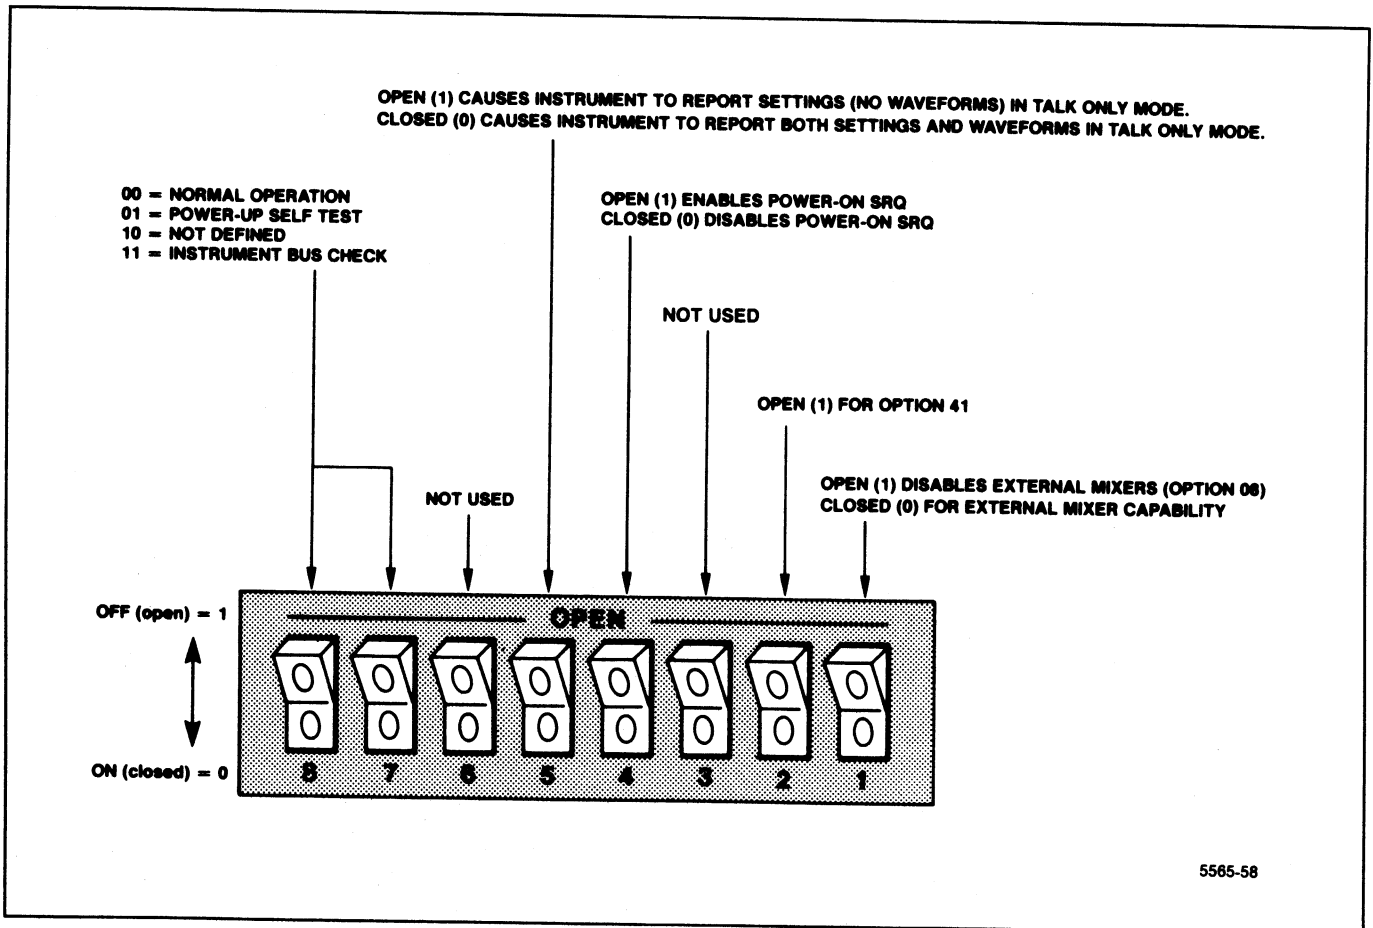

Figure 7-33. Options switch bank on the Memory board.
**Options.** The Options Switch settings tell the micro-computer which instrument options are installed so that the appropriate firmware is used. It also enables diagnostic checks and allows reporting only settings over the GPIB in Talk Only mode. Figure 7-33 shows the switch settings. See the Maintenance section for more information about using the switches.